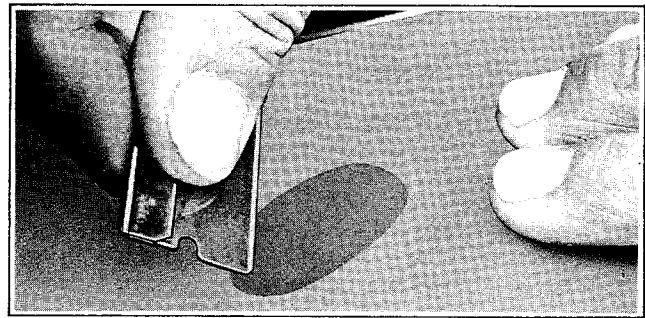

Figure 2-38. Spreading Gel Coat Evenly
8. Spread the gel coat level with the surrounding area and allow to cure (30 - 60 minutes). See Figure 2-38. Gel coat can be covered with cellophane, if desired, to aid in spreading evenly. Remove cellophane after gel coat has cured.
4. Fill the scratch or hole slightly above the surrounding undamaged area, working the Filler coat into the damaged area with a putty knife. Be careful to puncture and eliminate any air bubbles which may occur. Patch can be covered with cellophane to aid in spreading evenly (see Figure 2-38). Allow to cure completely before removing cellophane.
12. Patch can be covered with cellophane to aid in spreading evenly (see Figure 2-38). Allow to cure completely before removing cellophane.